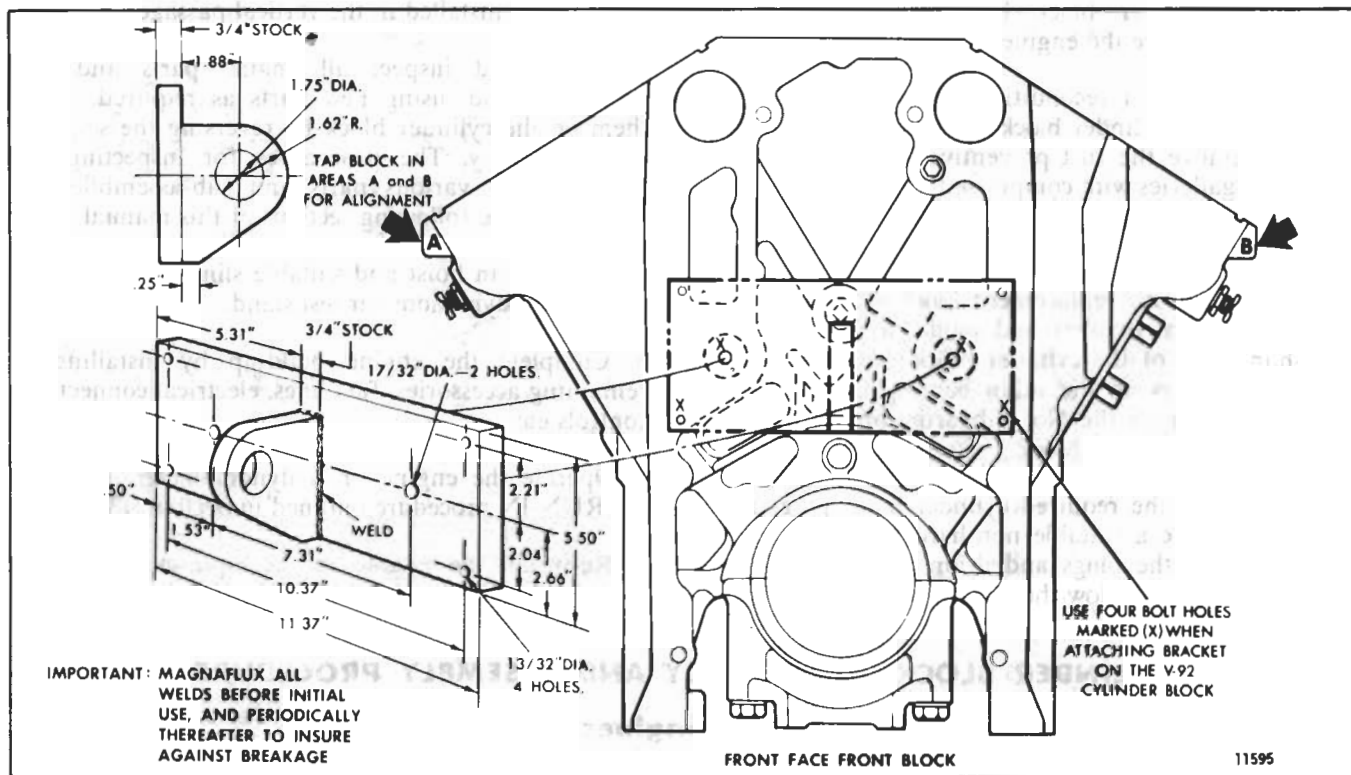

Fig. 7 - Details of Cylinder Block Lifting Bracket
CAUTION: NEVER use eye bolts or any other commonly purchased hardware to lift the cylinder block. Due to the weight of the blocks, it is important that the lifting brackets are constructed as shown in Fig. 7 and that all weld joints are magnafluxed prior to and periodically after initial use.
3. Attach a suitable lifting bracket (Fig. 7) to the end of the front cylinder block with two 1/2"-13 x 2" bolts and two 3/8"-16 x 2" bolts.
5. Attach a suitable lifting bracket (Fig. 7) to the front end of the front cylinder block with two 1/2"-13 x 2" bolts and two 3/8"-16 x 2" bolts.
NOTE: If it becomes necessary to shift the front cylinder block when installing the attaching bolts, use a soft hammer and tap at points "A" and "B" shown in Fig. 7.
NOTE: If it is necessary to shift the front cylinder block when checking the alignment, tap at points "A" and "B" (Fig. 7) with a soft hammer to align the blocks.